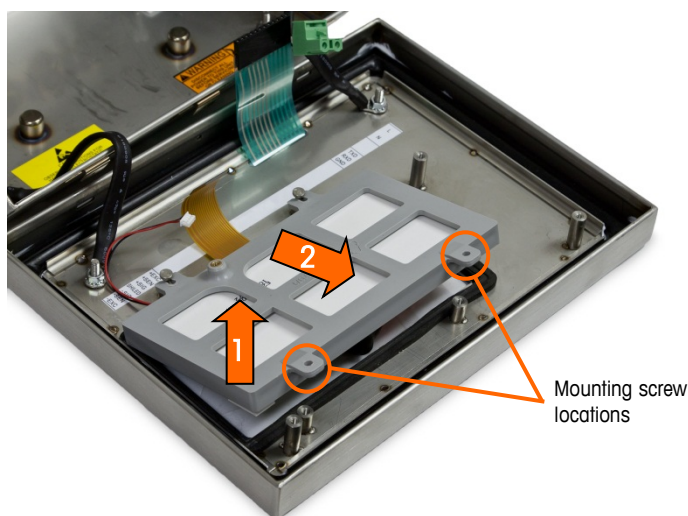

Figure 5-15: Display Module Mounting Screws
1. Unscrew and remove the two screws holding the display module to the enclosure. The screw positions are identified in Figure 5-15.
3. Place the LCD display module into the display bracket with the display and backlight harnesses oriented as shown in Figure 5-15.
6. Install the two screws holding the display module to the enclosure. The screws are identified in Figure 5-15.